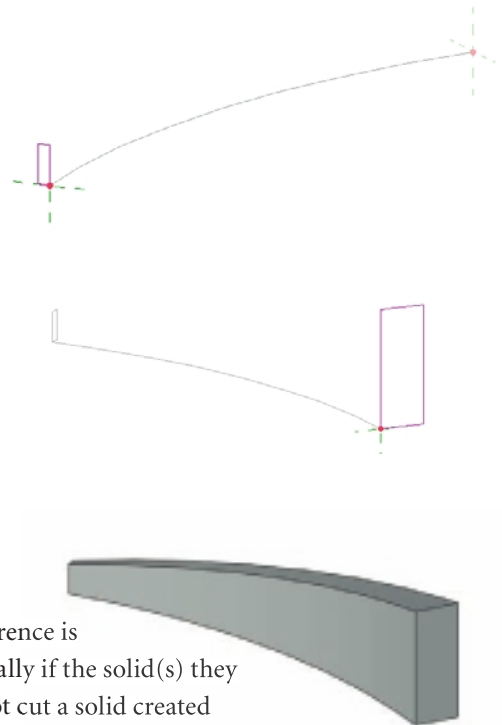

Figure 17.31
13. Click Finish Edit Mode; this completes the swept blend (your result should look something like Figure 17.31).